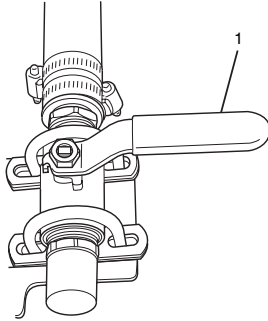

Figure 42
3. Open ball valve(s) (Figure 42, Item 1) and drain all hose(s) and pipe(s). Operate hose to drain hose and pipes.